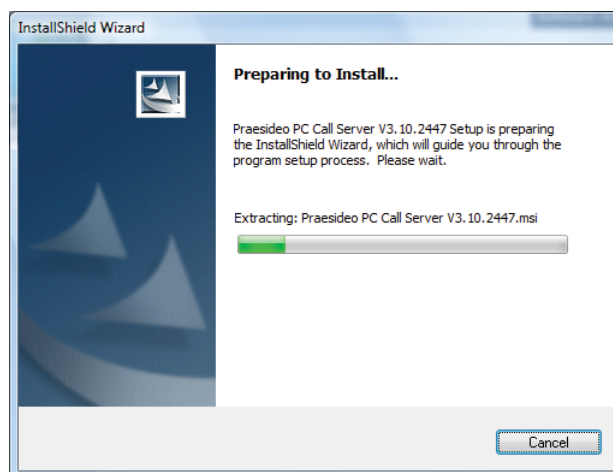

figure 58.1: PC Call Server setup program
- 3 Click the *Open* button to start the setup program of the *PC Call Server*. A screen similar to the one in figure 58.1 appears.
- 3 Click the *Open* button to start the setup program of the *PC Call Server Configuration Client*. A screen similar to the one in figure 58.1 appears, but now for the *PC Call Server Configuration Client*.